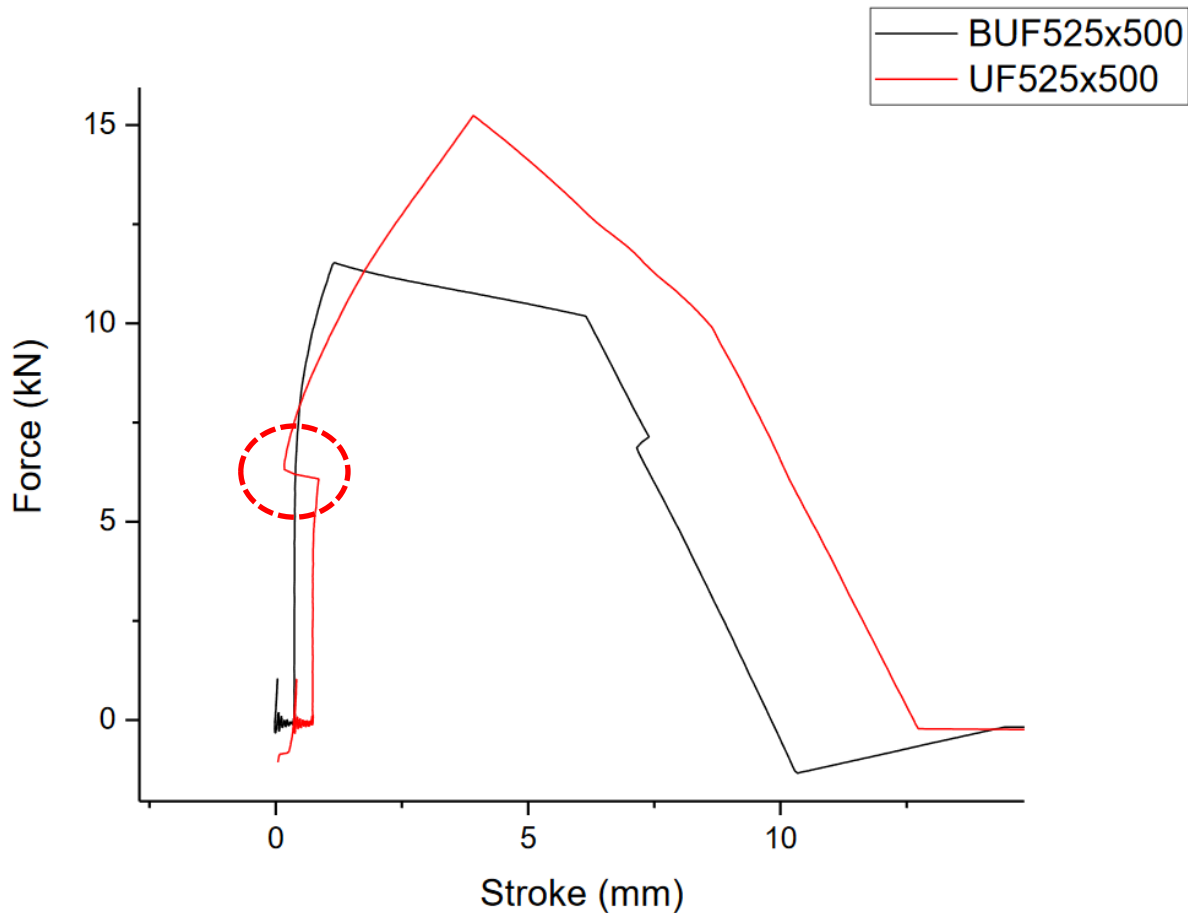

Figure 36. Force v. Stroke curve example
- 5. When I plot the Force vs Stroke graphs, I get a weird jump in the data as seen in Figure 36:**